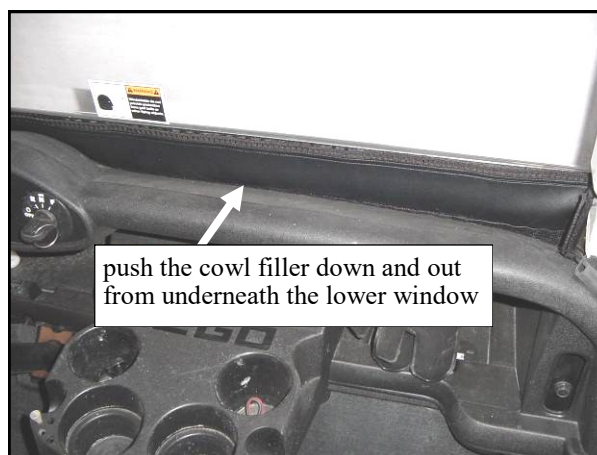
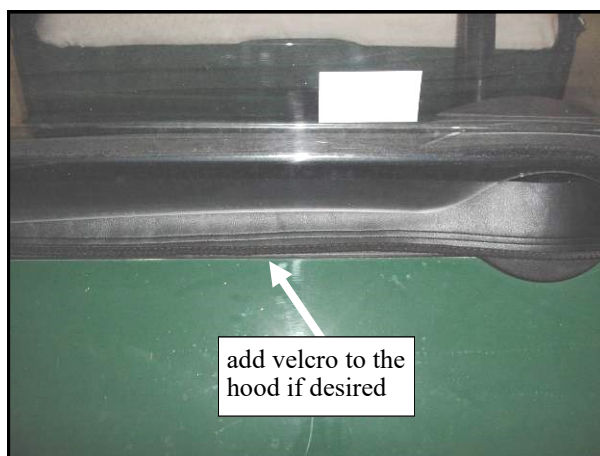

Fig. 8.4 (view taken from rear of vehicle)
Fig. 8.4.1 (view taken from front of vehicle)
8.4 Per fig. 8.4, push the entire length of the long, loose bottom edge of the cowl filler out from under the window to seal against the hood of the vehicle. Per fig. 8.4.1, velcro may be installed on to the top outer surface of the plastic hood if desired (not required) (use installer's discretion).